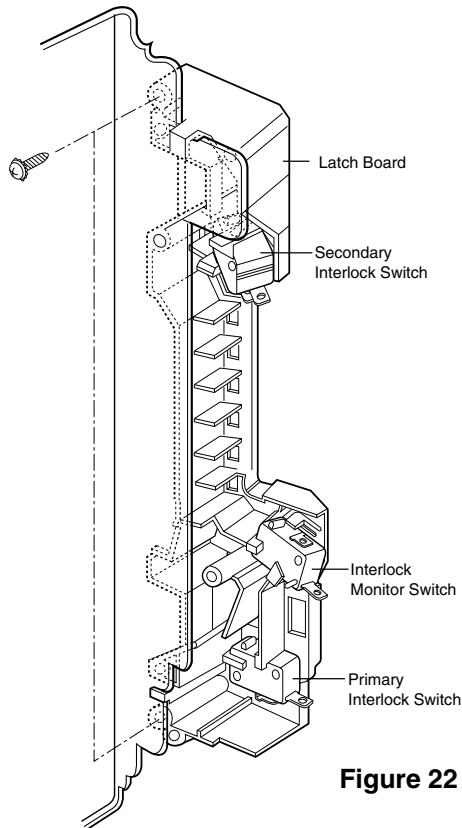

Figure 22
- (1) Set the microwave oven on its side so that you can see the latch board and the switches, as shown in Figure 22.
- (2) Close the door tightly and check gaps A and B to be sure they are no more than 1/64" (0.5 mm). See Figure 22 for close-up view of gaps A and B (door latches). If all gaps are less than 1/64" (0.5 mm), adjustment of the latch board may not be necessary. Go to Steps 5 and 6 to check the sequence of the switches.